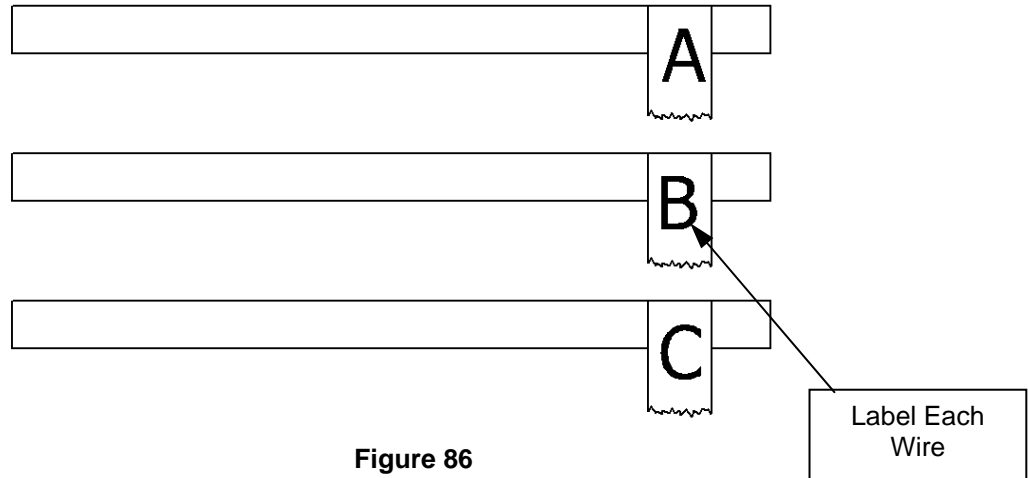

Figure 86
Step 5: Label the (3) cut wires (A), (B), and (C) respectively. Label both ends of the wires. This is shown in Figure 86. Masking tape can be used to label the wires.